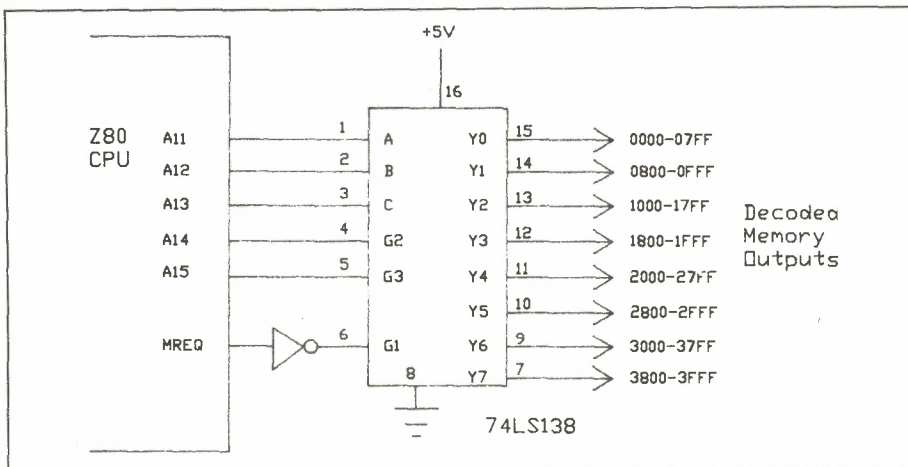

Fig. 4 Typical decoder circuit utilizing the 74LS138.
Fig. 4 shows a typical decoder circuit using a 74LS138 (3 to 8 line decoder) that
The Chip Enable (CE) input on the EPROM is provided to turn the device on and off. When a logic level zero is placed at this input the EPROM will output data to the data bus. Since the outputs from the decoder in Fig. 4 are active low, the CE input can be directly connected to the decoder output.